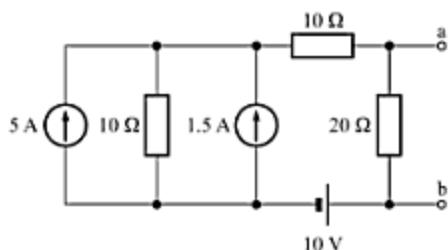

Fig. 3.75
16. Using source transformation, reduce the network shown in Fig. 3.75 to a single loop circuit and then determine current through the  $20\text{-}\Omega$  resistor.